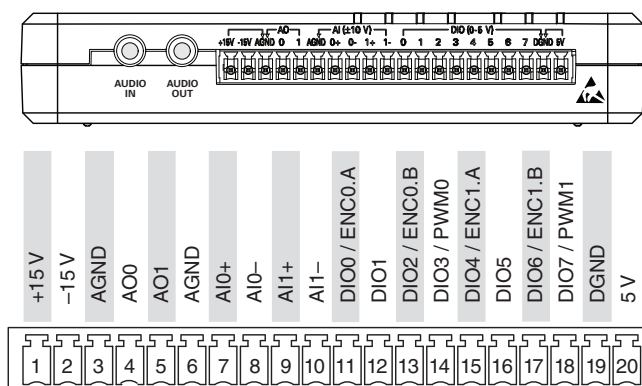

Figure 03.2: myRIO Connector C (from Instruments \(2013\)).
4. We will be using the MSP connector named C on the side of the myRIO shown in Figure 03.2.
5. With jumper wires, connect the analog output ground channel $AGND$ (3) to the ground of your circuit (choose ground to be the “free” end of the capacitor).
6. Connect the analog output channel $AO0$ (5) to the free end of the resistor such that the analog voltage supplied via $AO1$ and $AGND$ is applied across both resistors, together. You now have V_s supplied by analog output $AO1$.